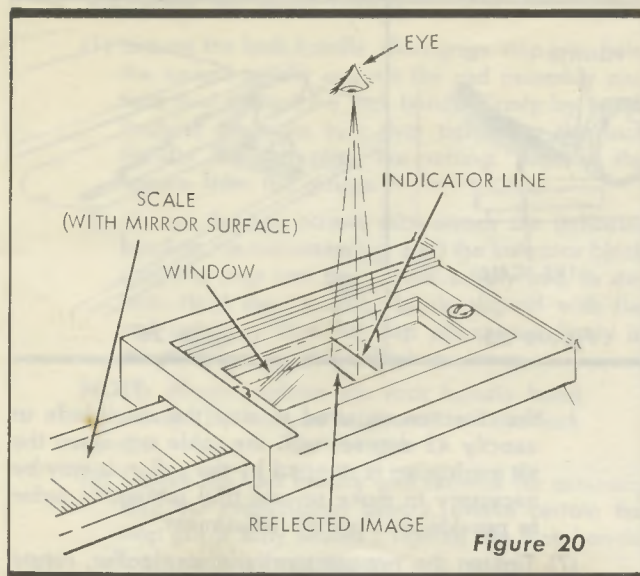

Figure 20
indicator line on the mirror surface of the guide-bar scale. In order to make sure that you are sighting squarely above the scale, move your eye until the indicator line and its reflected image coincide. (See figure 20.)
**NOTE:** When properly adjusted, the indicators may be used for most operations thus eliminating the need for actual measurements, except for extreme requirements. When sighting the indicator, always use the system shown in figure 20, in order to make sure the sight angle is correct.